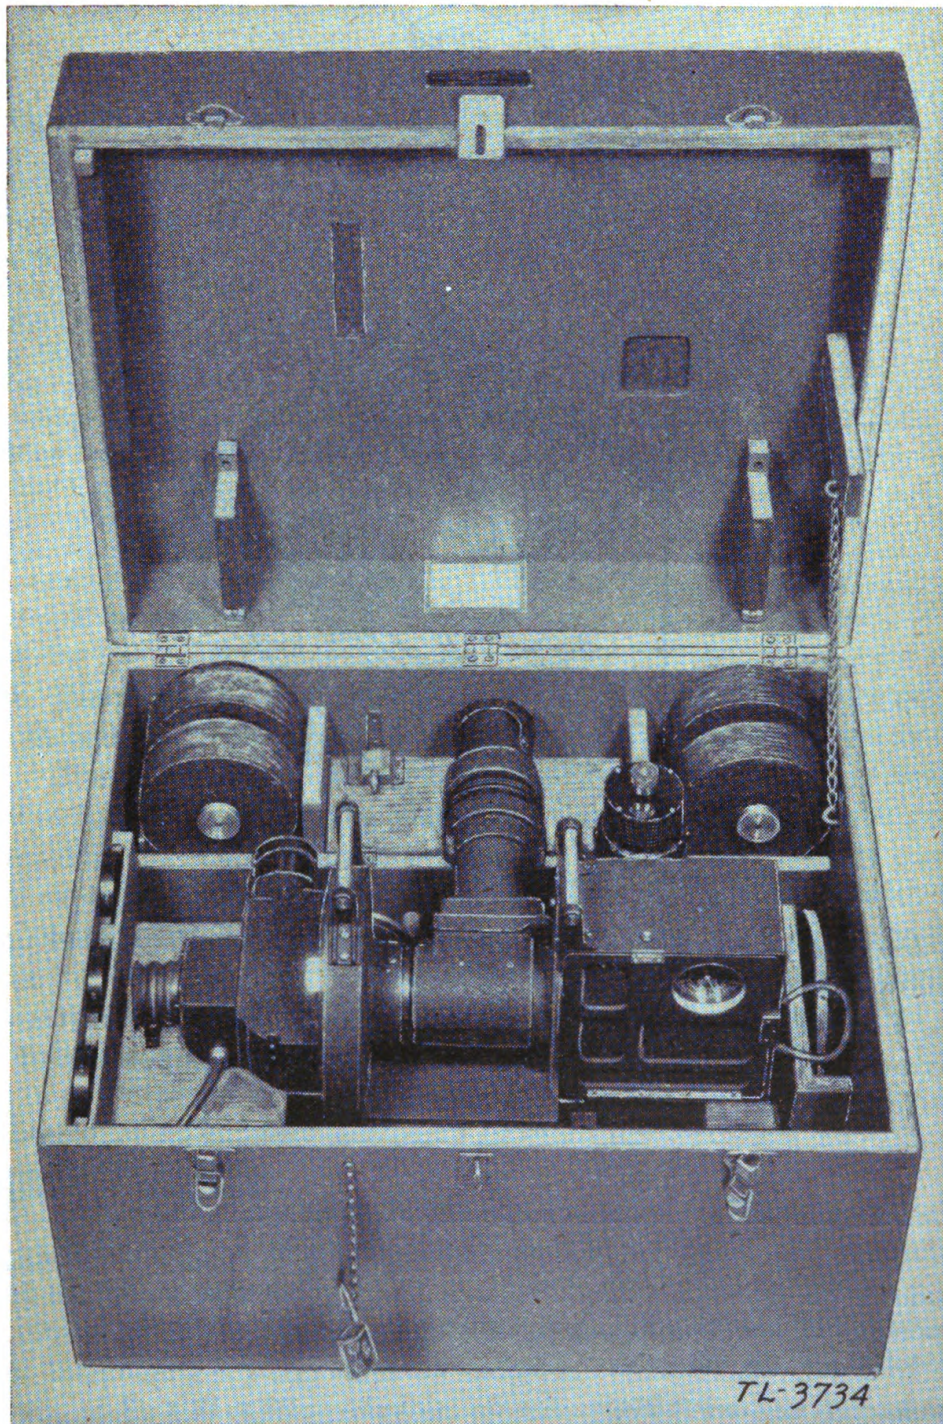

FIGURE 15.—Theodolite PH-BD-33 in carrying case.
b. Theodolite PH-BD-33.—Figure 15 shows the theodolite in its carrying case, with the base ring and film magazines; the junction box with its cables is in a covered compartment in the bottom of the case. Tools, exposure meter, and filters are in other compartments. The theodolite must always be clamped in the carrying case when being moved, using the clamping device. When packing for shipping long distances use ordinary nuts with lock nuts to prevent the clamps from shaking loose.